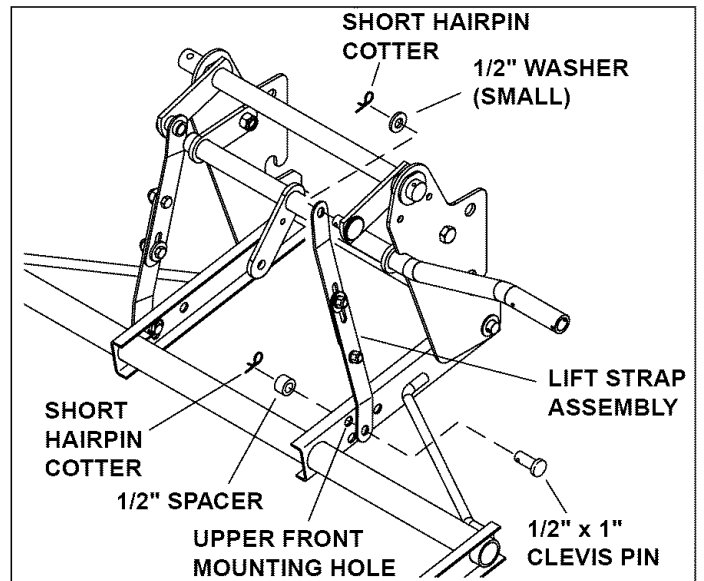

FIGURE 5 Bucket removed for clarity.
- Turn the lift strap assemblies as shown. Install each lift strap assembly to an arm of the lift bracket assembly and then secure with a small 1/2" washer and a short hairpin cotter. See figure 5.
- Position the lower end of each lift strap assembly to the outside of the lift frame. Fasten to the upper front holes in the lift frame using a 1/2" x 1" clevis pin, 1/2" spacer and short hairpin cotter for each assembly. See figure 5.